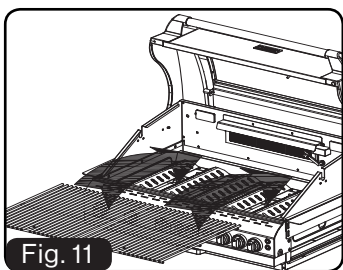

Fig. 11
11. Put the grill into body as shown. (Fig. 11)